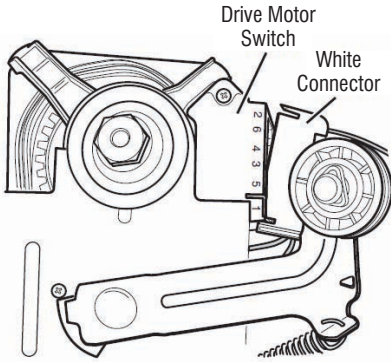

Figure 9 - Remove white connector.
8. Remove the white connector from the drive motor switch. See Figure 9.